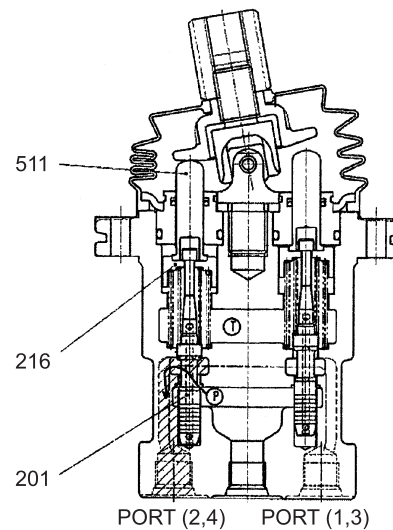

Fig. 24-9 When the lever is tilted
(2) When the pilot lever is tilted (See Fig. 24-9)